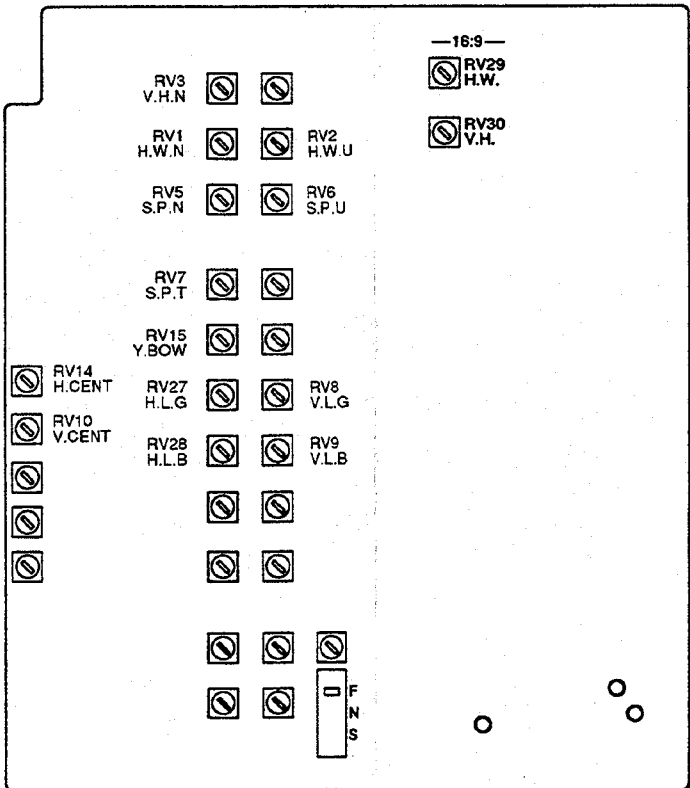

Fig. 28-8
4. Adjust the gain of H.lineality with H.L.G (RV27) on the D board as shown in Fig 28-8 "Change to horizontal".